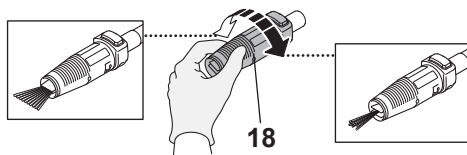

Fig. 9
2. Turn the vario nozzle to adjust the water jet according to the surface to be cleaned (Fig. 9).